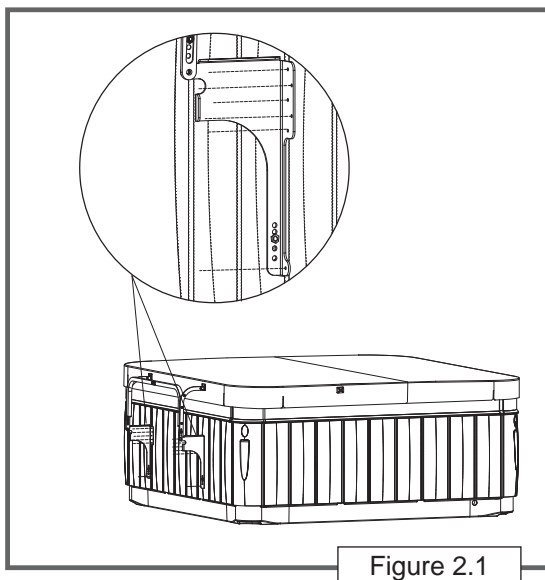

Figure 2.1
1. Using the Mounting Bracket (bottom part of the Pivot Assembly) as a template. Pre-drill 7/64" holes into spa (Figure 2.1) with 1" max. depth. There are (6) holes per Mounting Bracket.